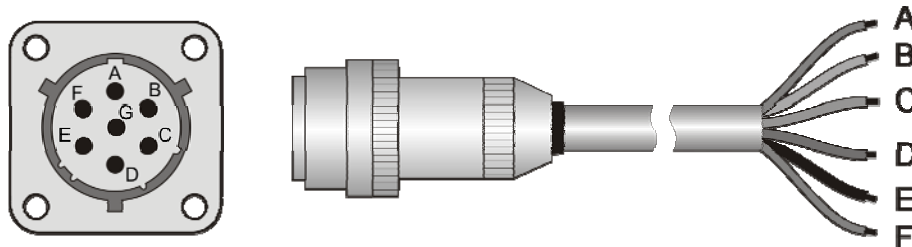

Figure 3
- The optional cable is terminated with a connector at one end and it is made of PTFE UV-proof. It is provided with 5 wires and a braided wire (shield). Cable colors and connector poles are matched as follow (figure 3):